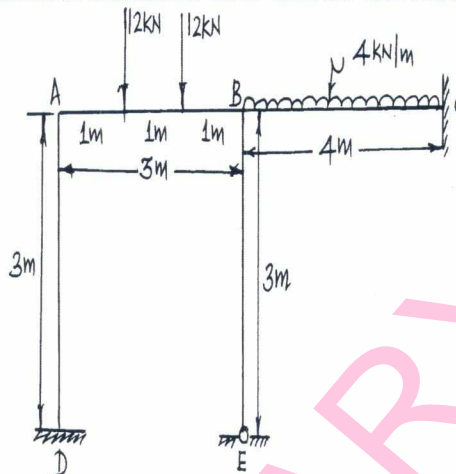

Fig. Q5
- 5 A continuous beam shown in Fig. Q5 has rigidly fixed ends C and D, is pinned at E and has rigid joints at A and B. The members are of uniform sections and material throughout. Sketch the bending moment diagram for the frame, showing all important values. Also find the values of the horizontal and vertical reactions at D and E. use Kani's method. (20 Marks)